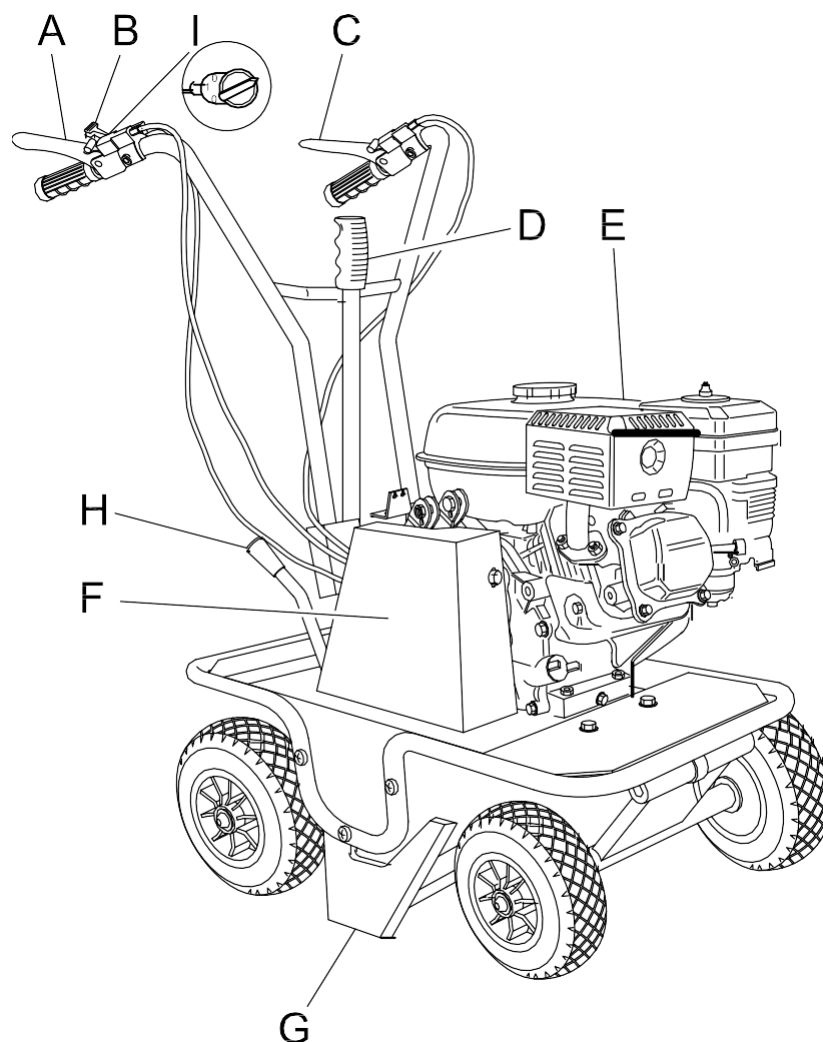
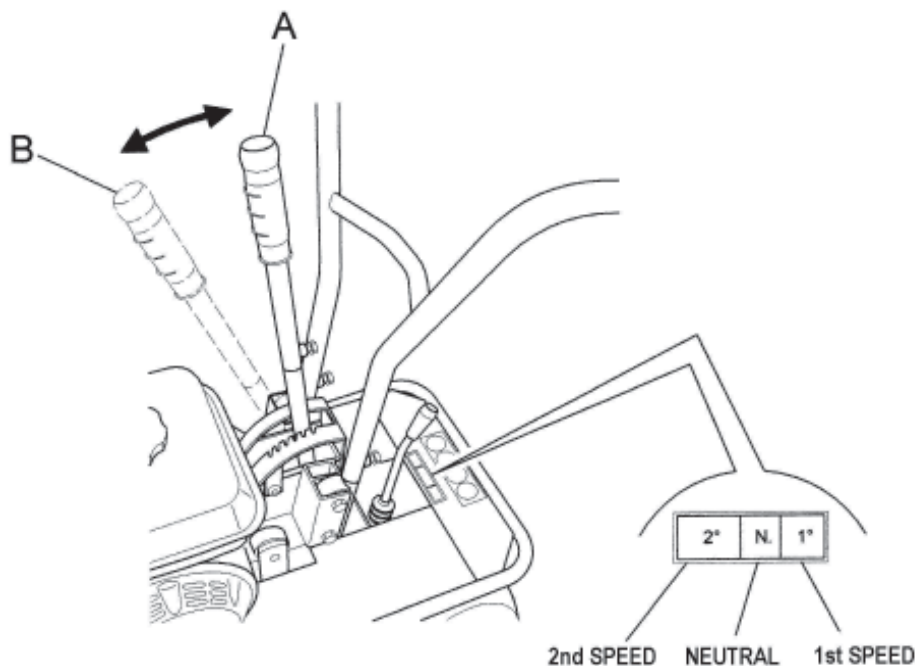

Figure 1
Figure 2
This lever serves to adjust the cutting height according to the type of terrain and the thickness of the turf to be cut. (Fig.2 Ref. A)
The cover (Fig. 1, ref. F) prevents any contact with the moving parts of the machine. Use of the machine without the said cover is strictly prohibited.
Select the required gear only after disengaging the forward clutch by releasing the relative lever (Fig. 1, ref. C).
- Before switching on the engine make sure that both engagement levers (forward clutch control lever - Fig. 1, ref. C and blade clutch control lever - Fig. 1, ref. A) are in the disengaged position (released) ; then place the gear lever in neutral (Fig. 2, ref. C)
- The cover (Fig. 1, ref. F) should not be moved for any reason whatsoever while the machine is in use.
- Before moving away from the machine, place the gear lever in neutral (Fig. 2, ref. C) and switch off the engine by moving the switch (Fig.1,ref.l) to the 0 position.